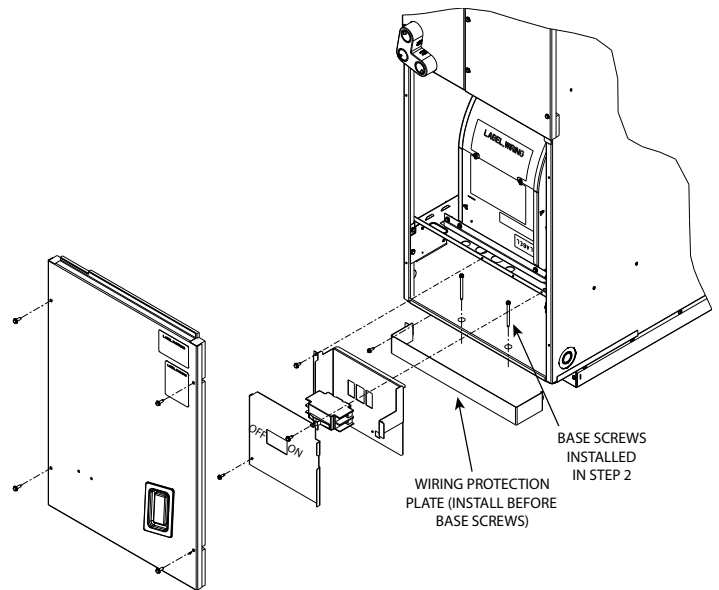

Fig. 9 – Unit Attachment
1. Remove the door (Fig. 9).
6. Connect wire protection plate to downflow base after wiring is complete, and before using long screws to attach front base of cabinet to floor as shown in Fig. 9.